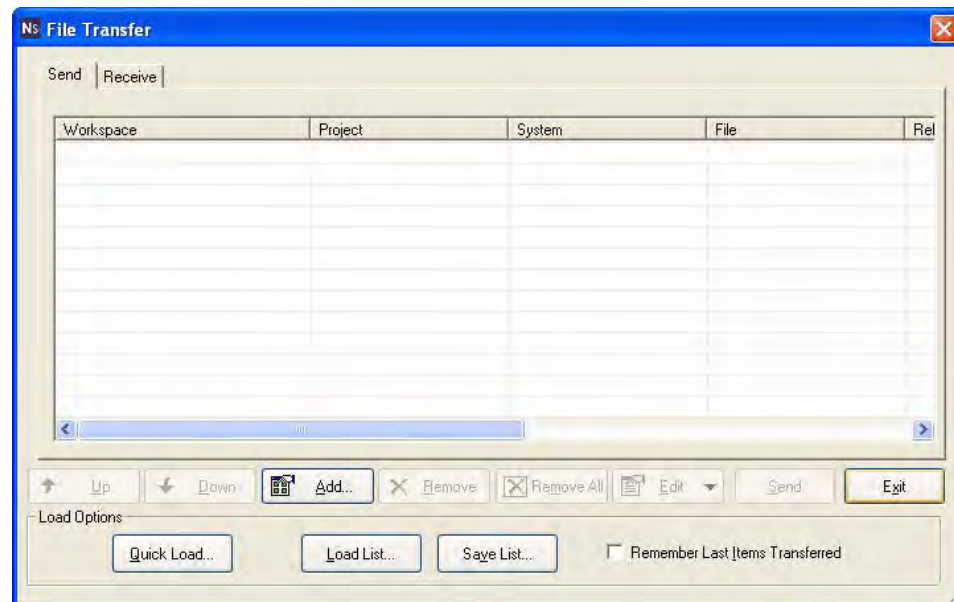

FIG. 55 File Transfer dialog (NetLinX Studio)
1. Choose **Tools > File Transfer** to open the *File Transfer* dialog (FIG. 55).